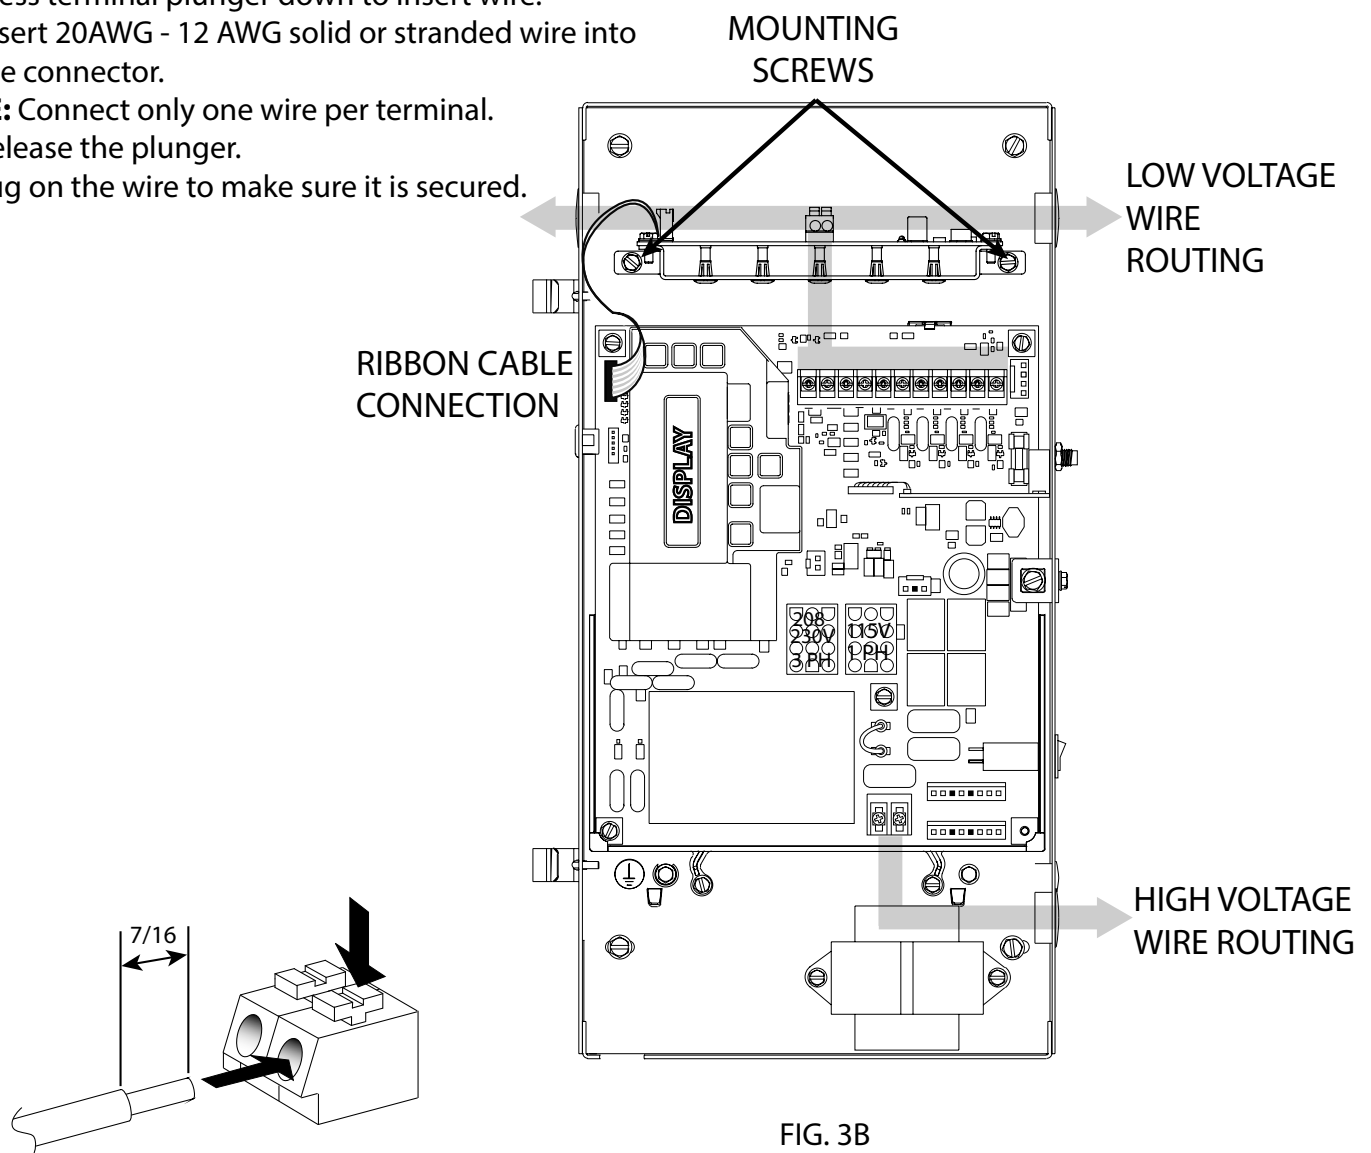

FIG. 3B
1. Route Sensing Edge wiring to electric box as shown in FIG. 3B.